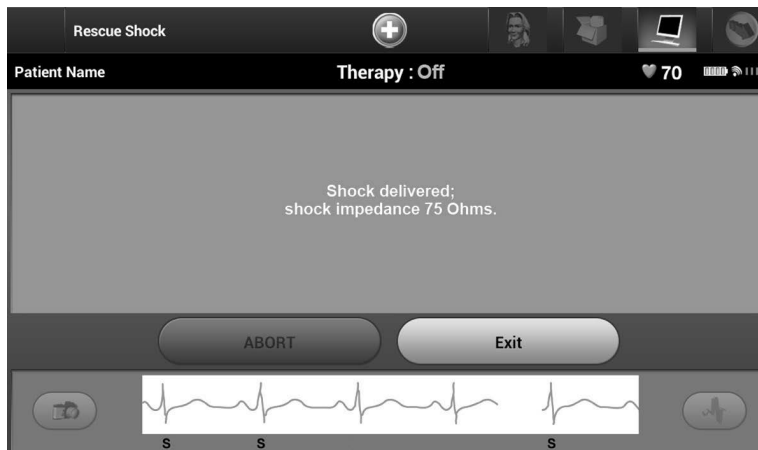

Figure 57: Confirmation of Rescue Shock delivery
3. A confirmation screen will appear with notification that the shock was delivered successfully along with the corresponding shock impedance (Figure 57).